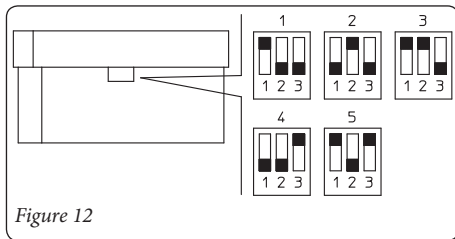

Figure 12
The switches (5) used to set the boiler addresses are on the opposite side (Fig. 12).